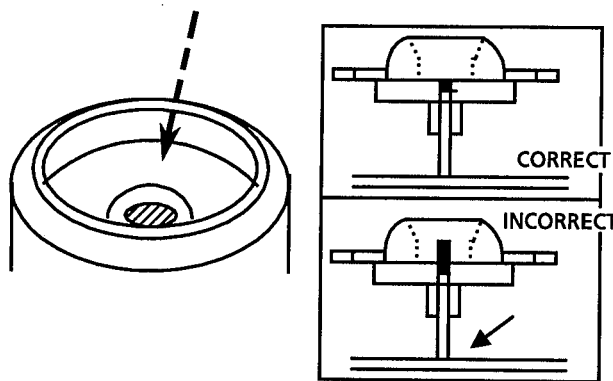

Fig. 46
- (31) After inserting the turntable, bond the motor shaft and turntable together (at the section marked by an arrow in fig 46 on the left below).
- (32) Use "LOCKTITE" #460 bonding agent, and apply as little as possible.
- Be extremely careful not to allow bonding agent to adhere to the motor bearing (the section marked by an arrow in fig 46 on the right).